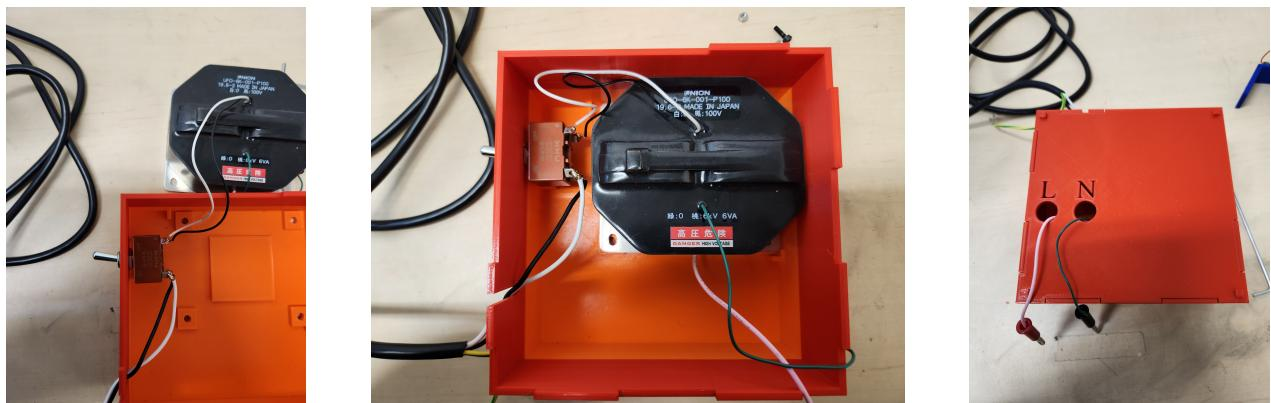

Figure 3: (left) attach the toggle switch to the power_supply_module_box.stl, (center) insert the transformer (right) assembled product
3. Attach the toggle switch to the power_supply_module_box.stl, insert the transformer, and secure it with screws (Fig. 3). While screws are not necessary, securing them with screws and nuts is advisable to prevent misalignment. Depending on the print quality, installation may be slightly challenging.